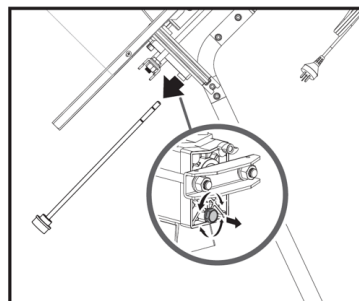

Fig. 16a
2. Remove the oil drain bolt (9). Refer to Fig. 16a.